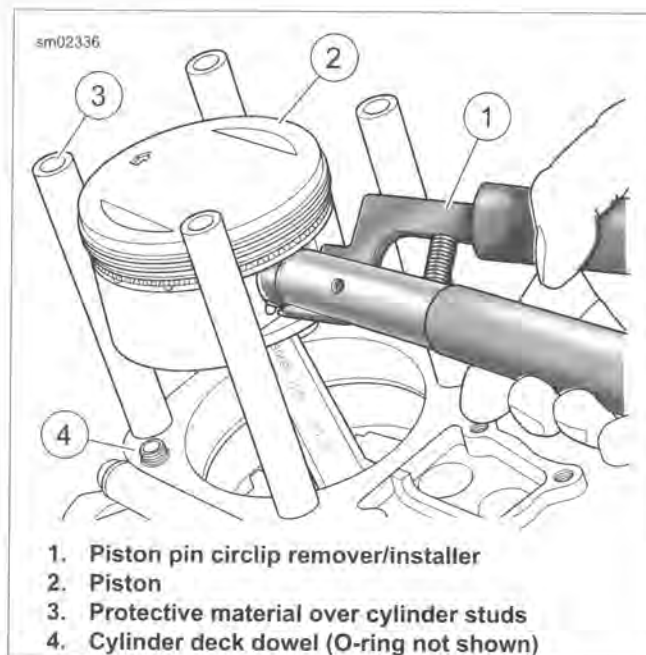

Figure 3-24. Piston Pin Circlip Removal
6. See Figure 3-24. Remove O-ring from dowel pin (4) on base of cylinder deck. Discard O-ring.
2. See Figure 3-24. Using PISTON PIN RETAINING RING INSTALLER (Part No. HD-42317-A), remove and discard one piston pin circlip.
- a. Insert tool (1) into piston pin bore. Position claw on tool in slot of piston (2) (directly under circlip).